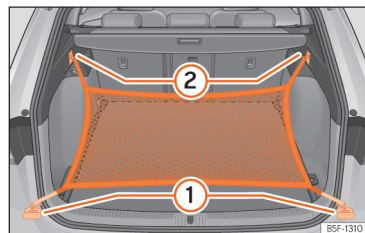

Fig. 189 In the luggage compartment: rings (1) and hooks (2) for attaching the net bag.
- Secure the short net hooks to the fastening rings »» Fig. 189 ① »» ⚠. The bag zip should be facing upwards.
- Secure the straps in the bag hooks ②.